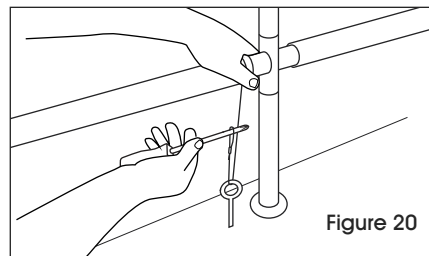

Figure 20
3. When you have tightened the clamp and satisfied that the cable will not slip, you may tighten the cable more by turning the anchor further in the ground. (See Figure 20)